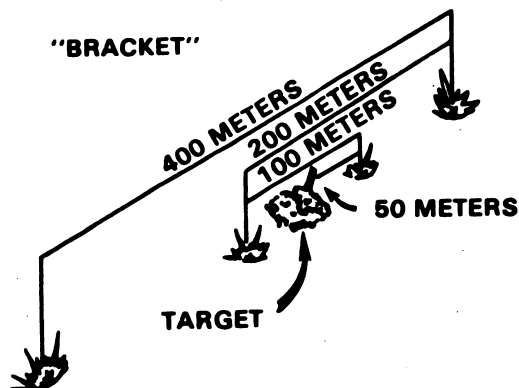

Figure 1
2. Adjust fire onto the target using the bracketing method of adjustment. (See fig. 1.)